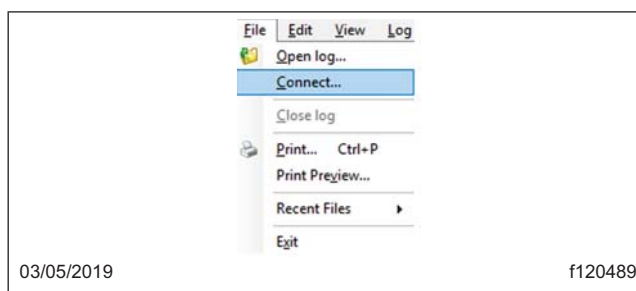
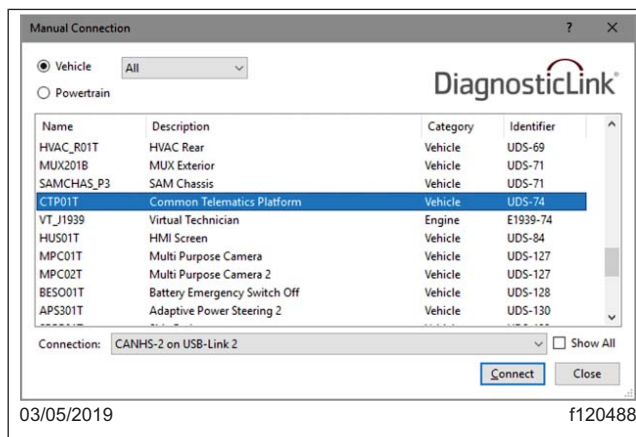

Fig. 2, Selecting Connect from the Drop Down Menu
Fig. 3, Selecting the cTP from the ECU List
12. Connect the vehicle to DiagnosticLink. Open the manual connection window under the File menu, then connect to the cTP by selecting it from the list. See Fig. 2 and Fig. 3.